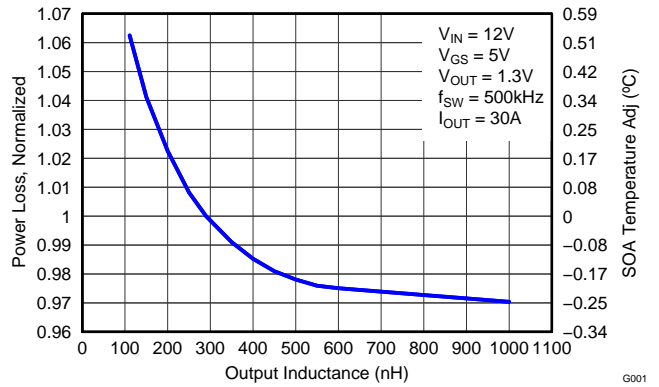

Figure 8. Normalized Power Loss vs. Output Inductance
- Normalized Power Loss for output inductor ≈ 1.02 (Figure 8)
- SOA adjustment for output inductor $\approx 0.2^\circ\text{C}$ (Figure 8)